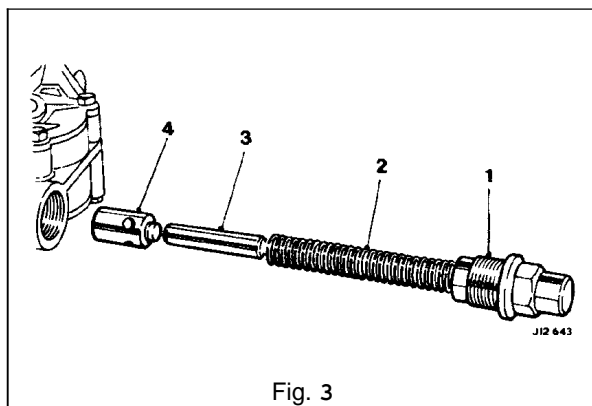

Fig. 3
- Remove the pressure relief valve cap, spring, mandrel and valve (1-4 Fig. 3).